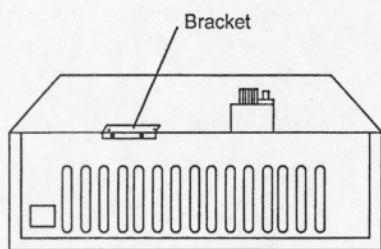

Figure1-Removing Bracket
2. Remove the bracket of control housing with a Phillips head screwdriver (see Figure 1).